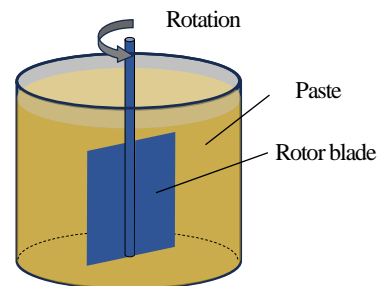

Fig. 4-2
- (3) What do we call the structure that forms the densest packing condition in (2)?
- (4) Consider the cement A mixed homogeneously with the cement B and packed densely in a cubic container with each side of 1 cm . In such a case, illustrate the schematic graph of the relationship between “the ratio of the volume of the cement B to the volume of the mixture of the cement A and the cement B” and “the bulk density (g/cm^3) of the mixture.”
- (5) There are two pastes, paste A and paste B, made by mixing the cement A and the cement B homogeneously with water at a volume ratio of 1:1, respectively. If each paste is placed in a cylindrical container of the same size and subjected to a slow rotary motion by a rotor blade at the same rotational speed as shown in Fig. 4-2, which paste produces the greater torque on the rotor blade? Also state the reason.